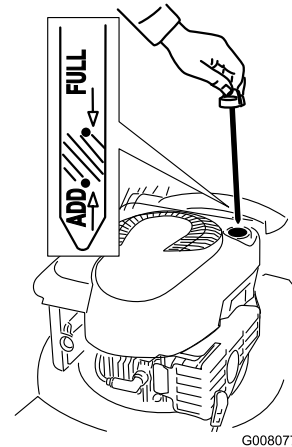

Figure 6
1. Remove the dipstick (Figure 6).
2. **Slowly** pour oil into the oil fill tube until the oil level reaches the Full line on the dipstick (Figure 6). **Do not overfill.** (Max. fill: 0.59 l, type: SAE 30W detergent oil with an API service classification of SF, SG, SH, SJ, SL, or higher.)
1. Remove the dipstick, wipe it clean, and fully install the dipstick (Figure 6).
2. Remove the dipstick and check the oil level (Figure 6). If the oil level is below the Add mark on the dipstick, **slowly** pour oil into the oil fill tube to raise the oil level to the Full mark on the dipstick. **Do not overfill.** (Max. fill: 0.59 l, type: SAE 30W)